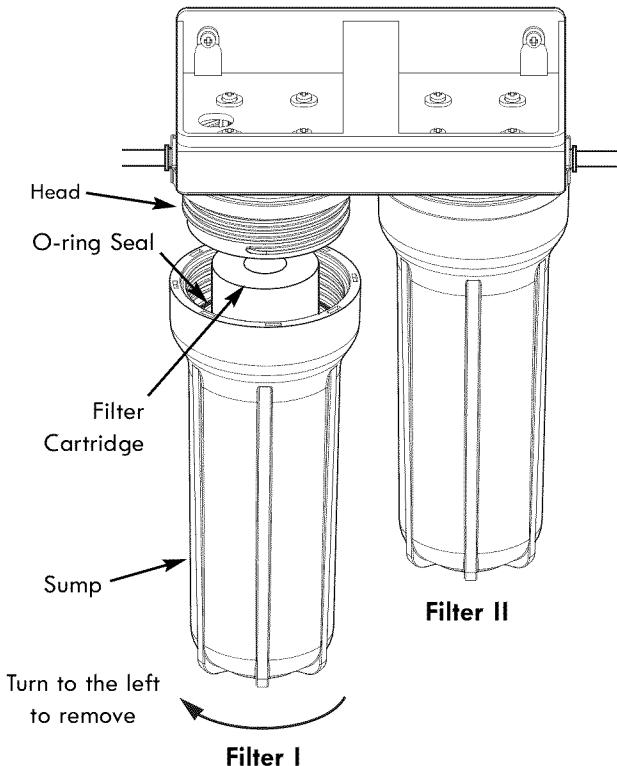

Figure 15
- NOTE: If you are using filter numbers 42-38480 and 42-34373, place filter 42-38480 (Sediment*) in the Filter I position and place filter 42-34373 (Taste & Odor) in the Filter II position (See Fig. 15).